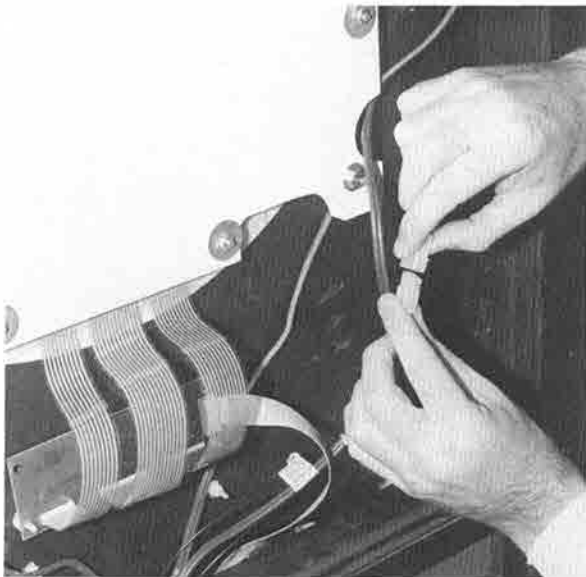

Figure 4. Attaching speaker harness
- Feed speaker connector up through hole in base of top assembly and connect (Fig. 4).